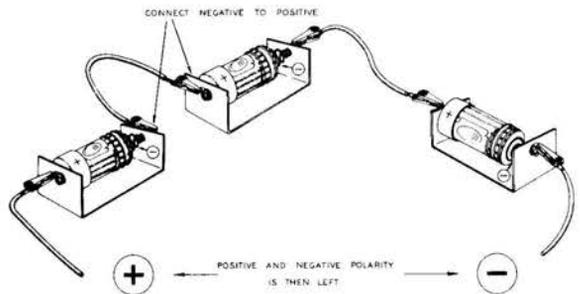
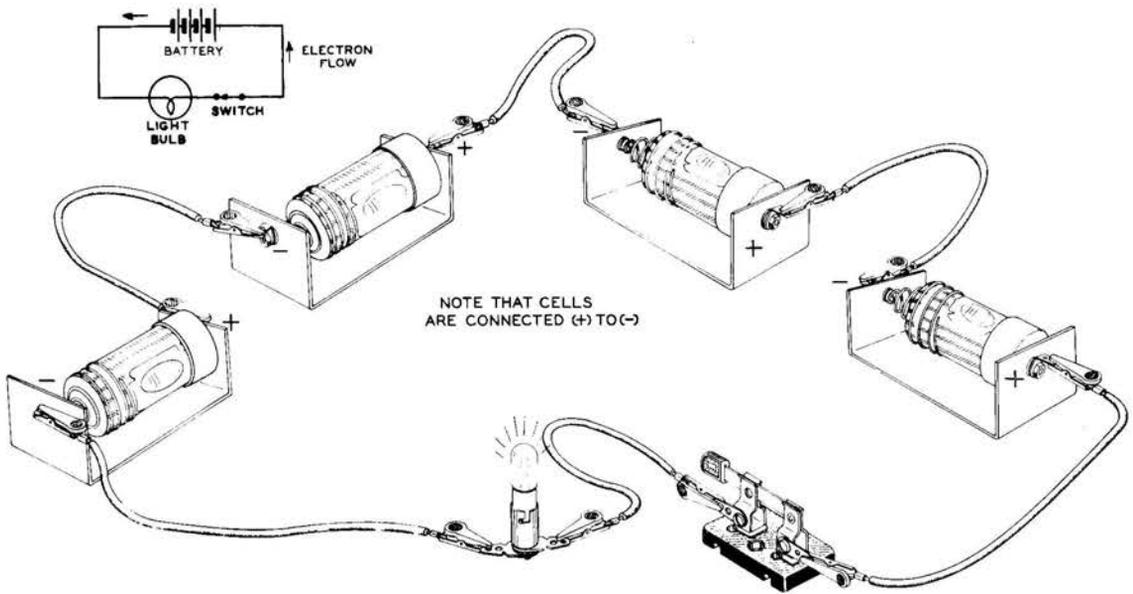
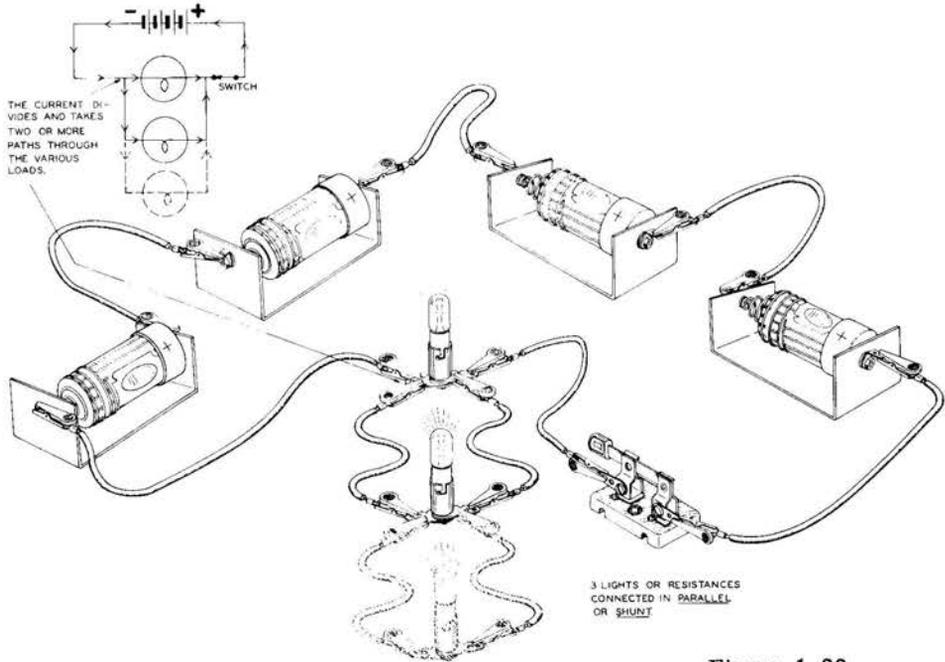

Figure 1-17
Figure 1-18
Figure 1-22
When you connected Figure 1-6 and caused the lamp to glow, you probably wondered why it did not glow very brightly. The reason is that not enough electrons were flowing through the filament to heat it to proper brilliance. To force more electrons through the filament, the electrical pressure must be increased by using more cells connected together in a string, as in Figure 1-17, so that the electrical pressure of each cell will aid the next one. Actually, six volts of electrical pressure is needed to cause the correct current of .15 amperes to flow through the filament of a #47 lamp. Since each flashlight cell develops approximately 1.5 volts of electrical pressure, it would take four flashlight cells connected in series to make 6 volts, since $4 \times 1.5 \text{ volts} = 6 \text{ volts}$. Connect the other three dry cells in series to form a battery of cells, or simply a battery, as shown in Figure 1-18.
In the parallel or "shunt" circuit, the current that comes from the electrical source divides and takes two or more paths through the various loads before it returns to the same electrical source. In Figure 1-22, we see that two lamps have been connected so that the current from the electrical source divides and flows through each lamp. With connecting wires, socket, and lamp revise your circuit of Figure 1-18 to correspond with Figure 1-22.
30. Draw a schematic diagram of a direct current parallel circuit using four cells, two light bulbs and connecting wires. (Check drawing with Figure 1-22, Page 13.)
29. What three things go into making a direct current series circuit? Answer: (1) A source of power that will deliver a continuous flow of current, (2) a load, and (3) connecting wires such that the current flows through the circuit from one place to the next place in succession.
33. What three things go into making a direct current parallel circuit? Answer: (1) A direct current power source, (2) two or more loads, and (3) connecting wires such that the current takes two or more paths through loads before it returns to the same electrical source.